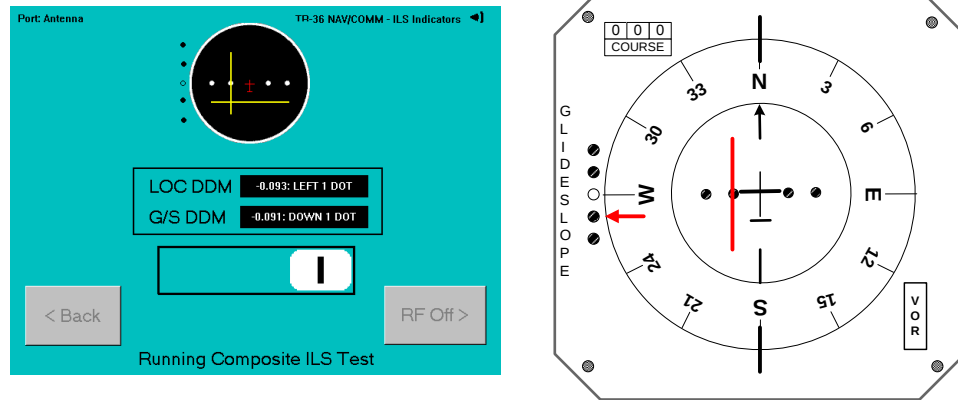

Figure 2-38. ILS Custom Setup
11. Figure 2-38 indicates LOC setting of LEFT 1 Dot, Glideslope DOWN 1 Dot and INNER Marker Beacon selected.